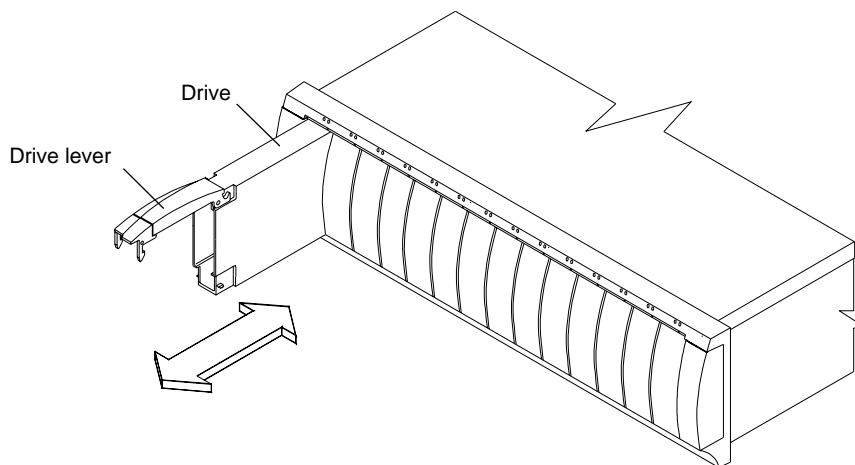

Figure 4-1 Removing and Installing a Drive Module
4. Pull out the drive module (see Figure 4-1).